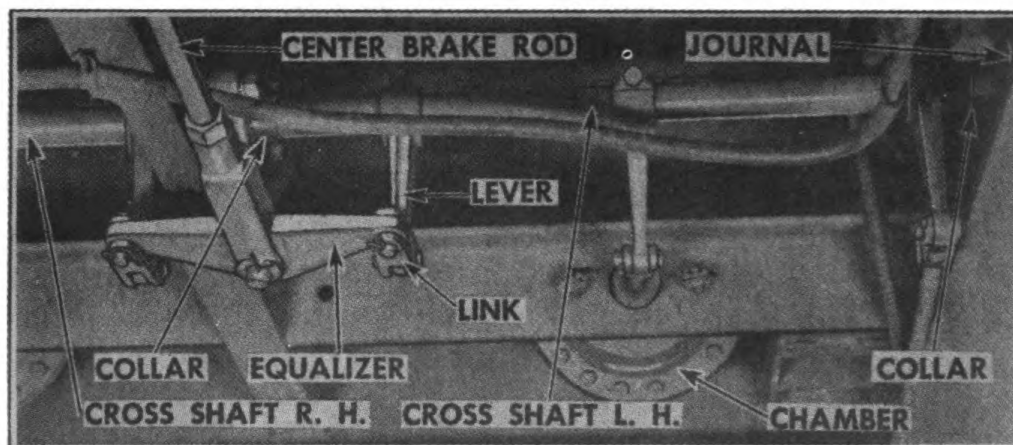

FIGURE 24. SERVICE BRAKE CROSS SHAFT
(2) Remove the center brake rod at free lever.
(3) Loosen set screw in collar and tap collar off shaft.
(4) Pull off free lever. Loosen pinch bolt in adjustable lever and tap lever off shaft.
(5) Remove the brake rod from lever on opposite end of cross shaft, tap lever and spacer off; and remove Woodruff key.
(6) Loosen the four bolts holding the two cross shaft journals to frame. Loosening the cross shaft journals eliminates all the bind, and cross shaft can be pulled out by hand. Driving on cross shaft will burr end of shaft and will make it difficult to reassemble.
(7) Pull cross shaft out through hole in side rail.
14. **SERVICE BRAKE CROSS SHAFT** (Fig. 24).—Service brake cross shafts come in rights and lefts. The servicing procedure of both is identical.
a. Removal.—(1) Pull the cotter keys and clevis pins from the five levers.